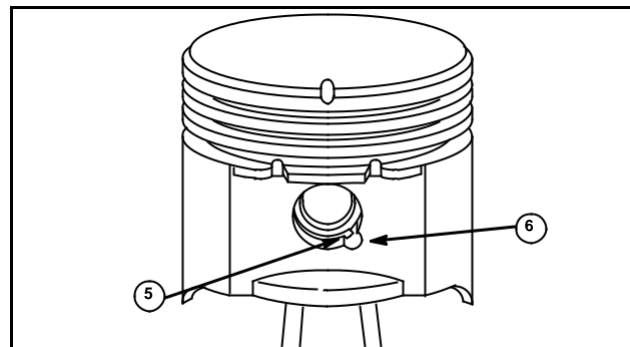

Fig. 3
1. Rotate piston pin retainer (5) until one end is exposed in notch in piston pin bore (6), Fig. 3.